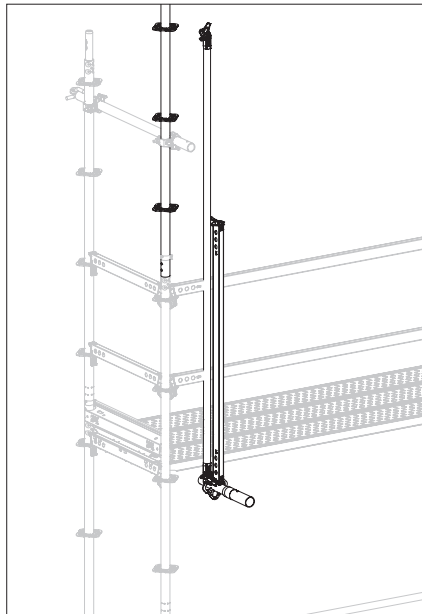

Fig. A4.04a
1. Bring the prepared assembly in front of the base scaffold. (Fig. A4.04a)